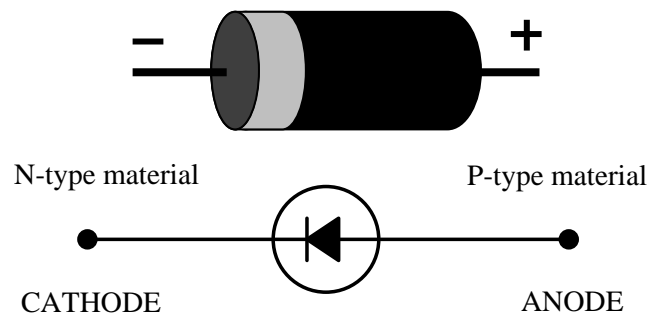

Figure 6-1: Circuit symbol for a semiconductor diode
1. A **junction diode** shown in Figure 6-1 has unidirectional current characteristics; that is, it will permit current to flow through in one direction (when forward-biased), but not the other (reverse-biased). Connection with the negative battery terminal to the N-type and the positive battery terminal to the P-type silicon is called **forward bias**, and results in a flow of current. Connection with the negative battery terminal to the P-type and the positive battery terminal to the N-type is called **reverse bias**. The “turn-on” or “threshold” voltage is 0.7 V for a silicon junction diode and 0.3 V for a germanium diode.